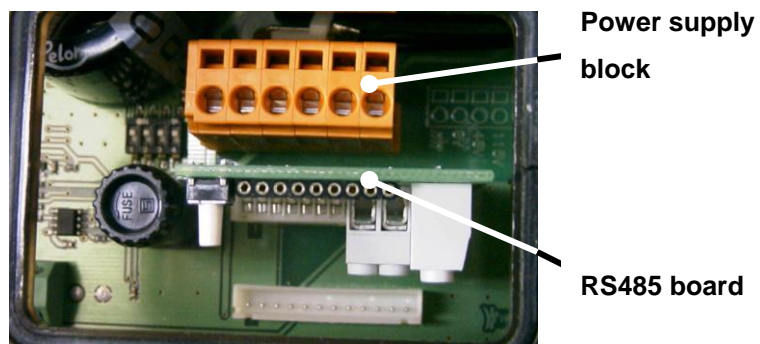

Figure 4
2. In case the board for RS485 was not installed, connect it to the closest connector to the power supply block (**figure 4**)